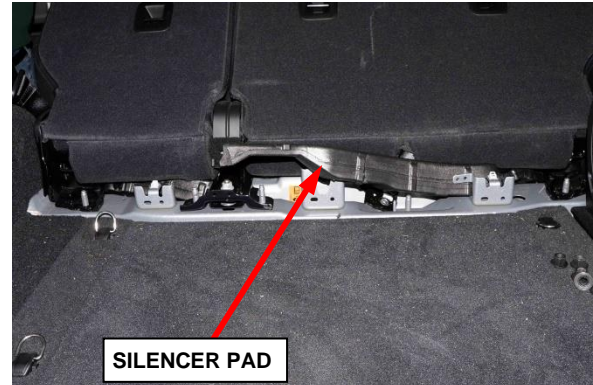

Figure 33 – Silencer Pad
- 35. Remove silencer pad (Figure 33).
33. Install the silencer pad (Figure 33).